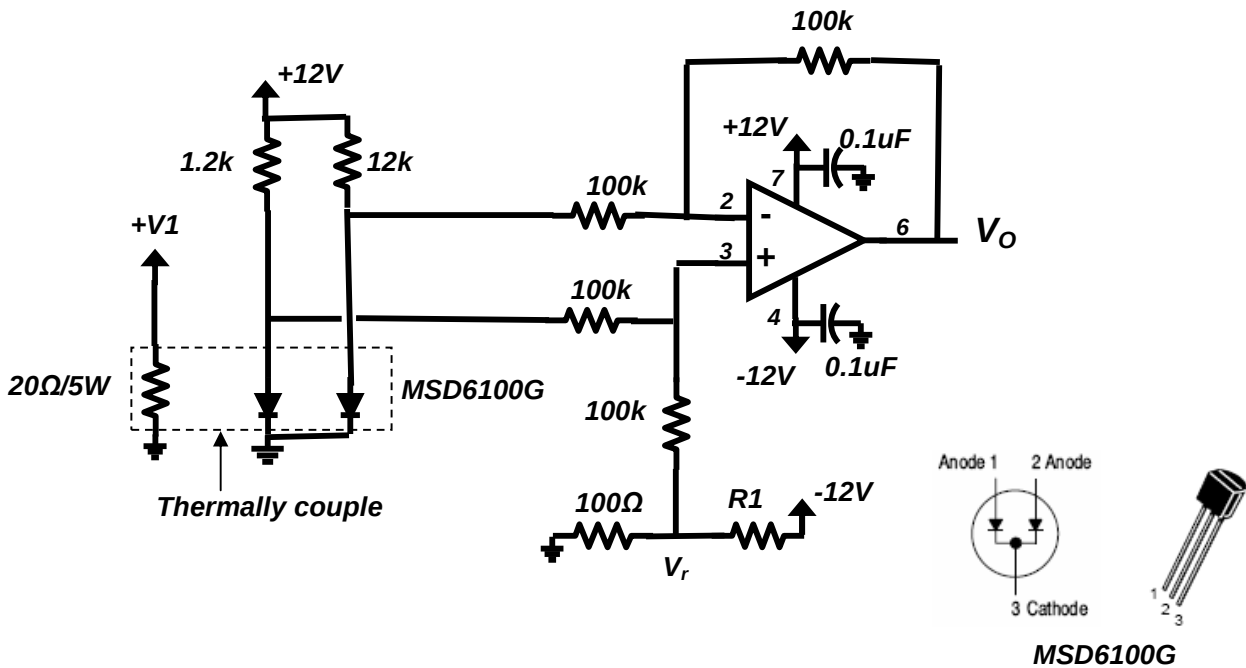

Figure 6a
2. Use nodal analysis to derive the relationship between V_o and the two inputs of the differential amplifier in Fig. 6a.